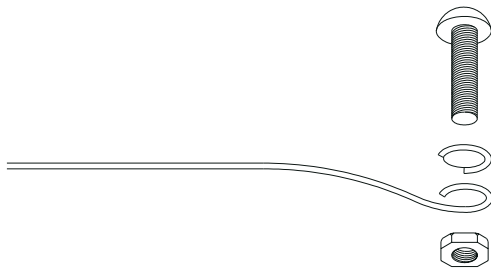

Figure 2
If house wire has a green or bare copper wire, secure it firmly to ground screws in housing using cupped washer ⑧ and nut ⑨ supplied. See Figure 2.